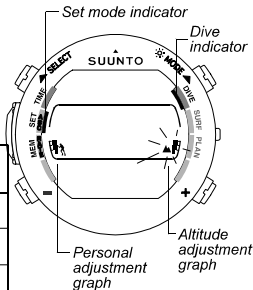

Fig. 5.11 Dive Adjustment Mode is activated.
- Wait two seconds until the Dive Adjustment Mode activates automatically. The dive mode indicator appears and the altitude graph starts to blink on the display (Fig. 5.11). The altitude graph is blinking because it is selected.